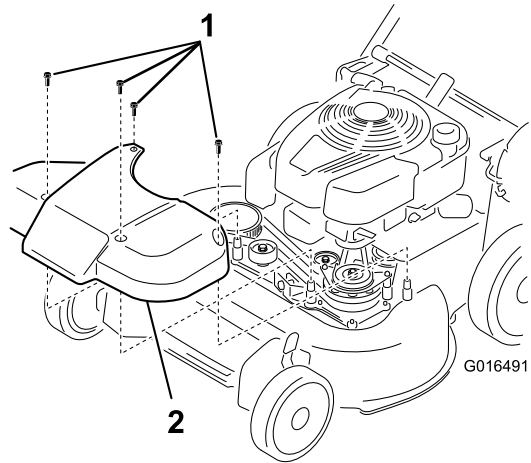

Figure 38
1. Remove the blade-drive system cover (Figure 38).